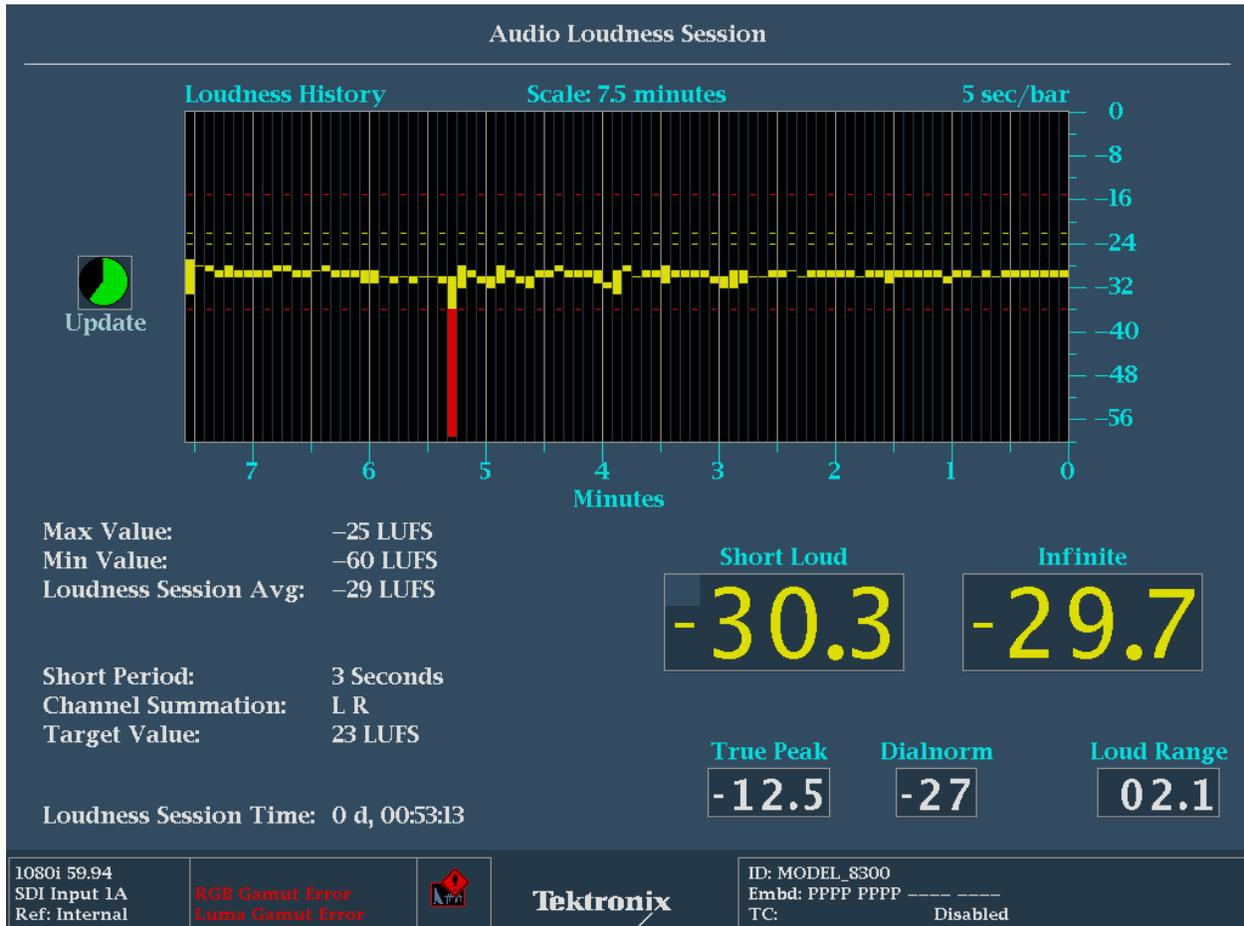

Figure 7. Loudness Session Bar Chart six hour duration.
There are two types of charts available within the instrument. A trend chart (Figure 6) that shows a graph of the loudness measurements for the last 90 or 180 seconds and a bar chart that shows the maximum and minimum loudness value during each bar period and can show the loudness variations from 7.5 minutes to 30 hours instrument (Figure 7).
2. **Scale:** Indicates the time interval over which the loudness measurements are made. This can be configured within the Loudness Session menu. When a Bar chart is selected the top left of the chart shows the duration of each bar and an update icon shows when the next bar will be added to the chart (Figure 7).